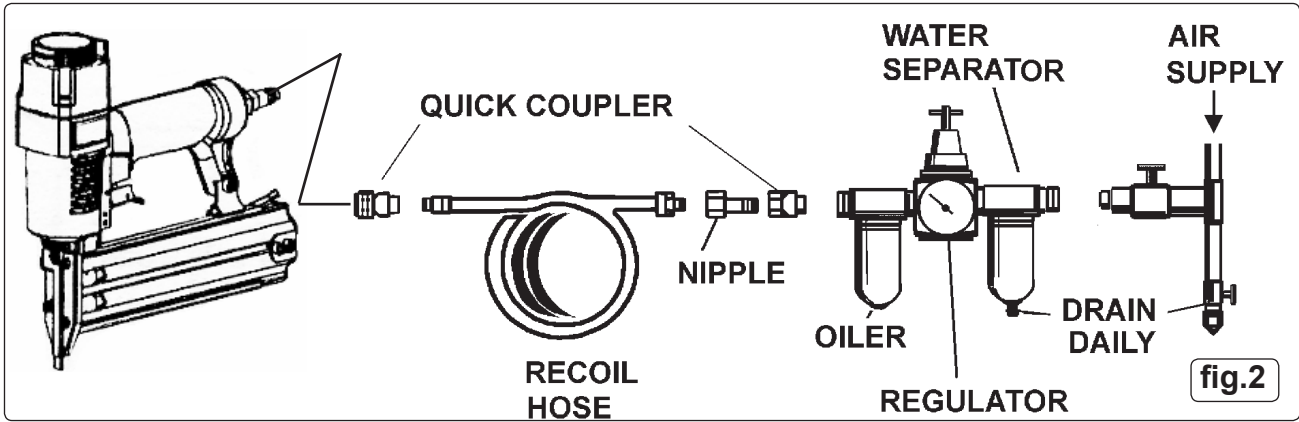

fig.2
- 4.1.4 Clean the compressor air inlet filter weekly. Recommended hook-up procedure is shown in fig.2.